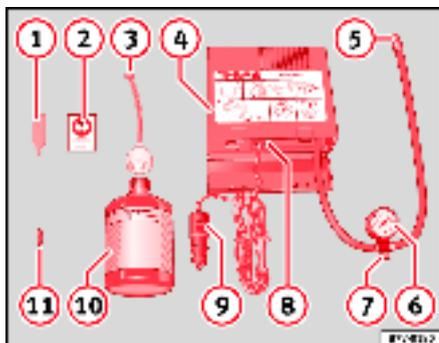

Fig. 154 Contents of anti-puncture kit
- Thread the inflating tube ⇒ fig. 154 ⑤ on the valve.
- Check that the air bleed screw ⑦ is screwed tight.
- Attach the connector ⑨ to a 12 volt socket of the vehicle.
- Connect the compressor using the ON/OFF switch ⑧ for at least six minutes.